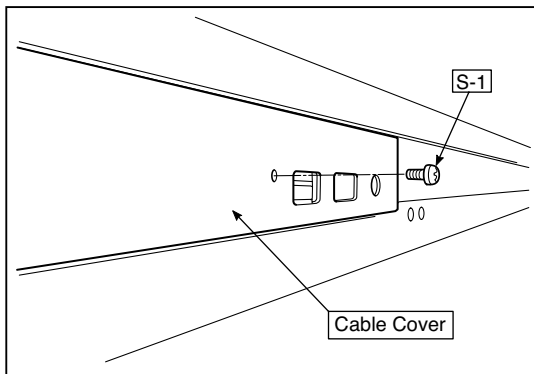

Fig.1
1) Remove the Main Board Assy. (See Figs. 1 and 2.)
- 1.Remove the "S-1" screw shown in the figure 1 and then remove the Cable Cover.